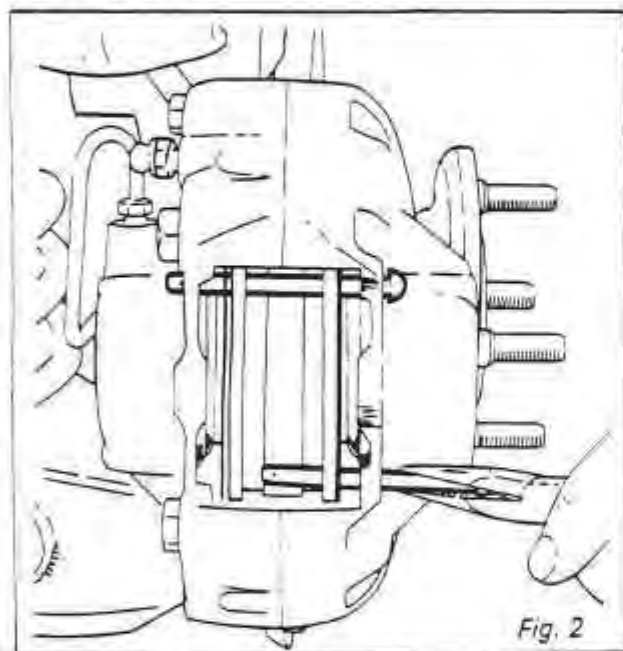

Fig. 2
4. Remove pad retaining pin clips from retaining pins and remove pad retaining pins. (Fig. 2)